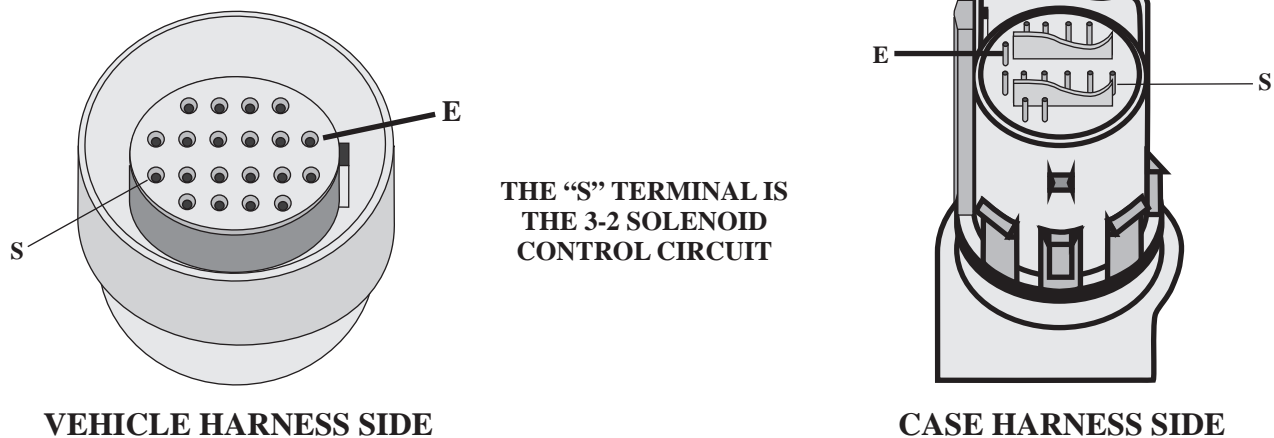

Figure 118
- Check terminal end cavities with a #59 wire gauge drill bit. Refer to Figure 118 for terminal location. Transmission wiring on "G" Vans is routed between the floor of the van and a sheet metal plate, wiring can deteriorate in this area, check for bulk head connector damage as well.